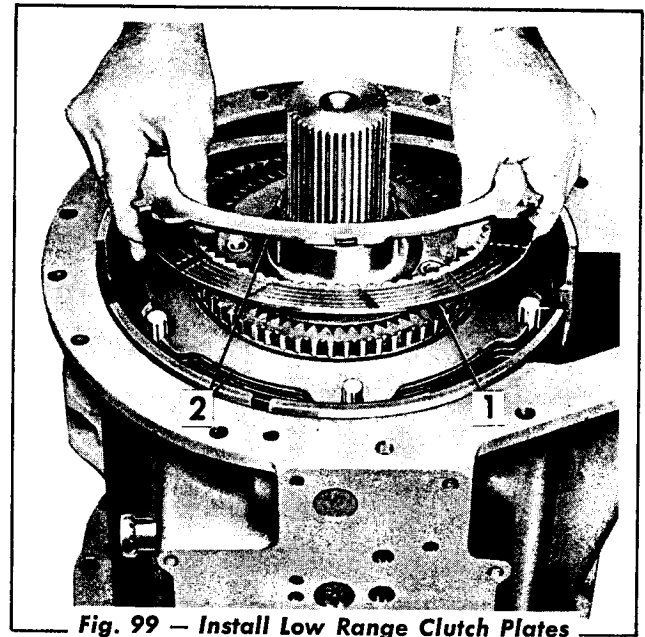

Fig. 99 – Install Low Range Clutch Plates
15. Install the remaining internal (Fig. 99) and the two external splined low range clutch plates.